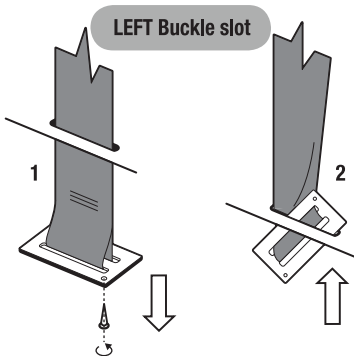

Figure 3
- Step 3:** Pull the crotch 3-bar plate then turn 3-bar slide and push through the slot to remove the Buckle from one side of the restraint (refer Figure 3).